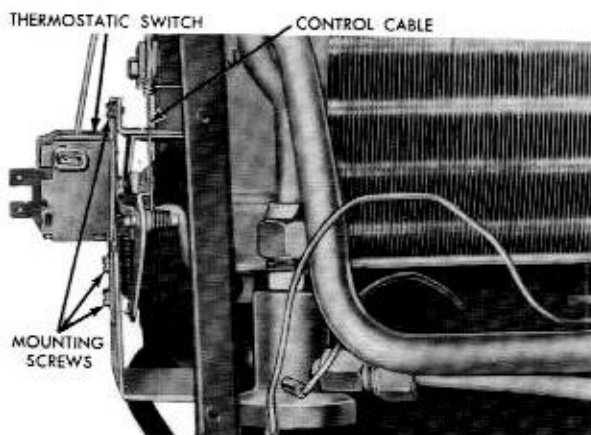

Fig. 5-14—Thermostatic Switch Installation—Ranger and Pacer—1958—(E-2638)
3. Remove the control cable from the switch cam arm. Remove two wires from the switch terminals. Remove the four switch mounting screws; then, remove the switch. (See figure 5-14.)